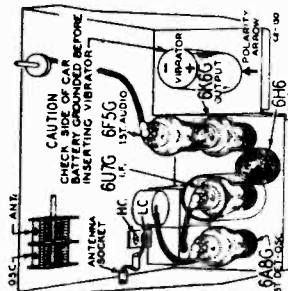

Fig. 4 Location of Tuning Control Shaft
**Both Models**—Set the signal generator for 1850 KC. Turn the rotor of the tuning condenser to the full open position. Adjust the trimmer of the oscillator section of the gang condenser until maximum output is obtained. See Fig. 4 for location of this trimmer.